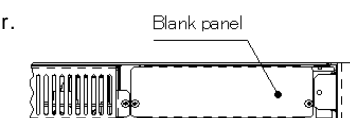

Figure 3 Location of blank panel
3. Remove the two screws, and remove the blank panel at the slot of the power supply module as shown in Figure 3.